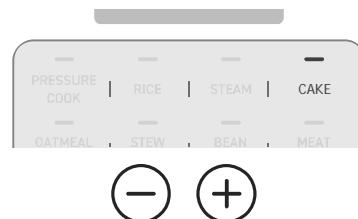

Figure 9.5
- Select **CAKE** and press the – or + buttons to adjust the time to your recipe's required cook time. **[Figure 9.5]**